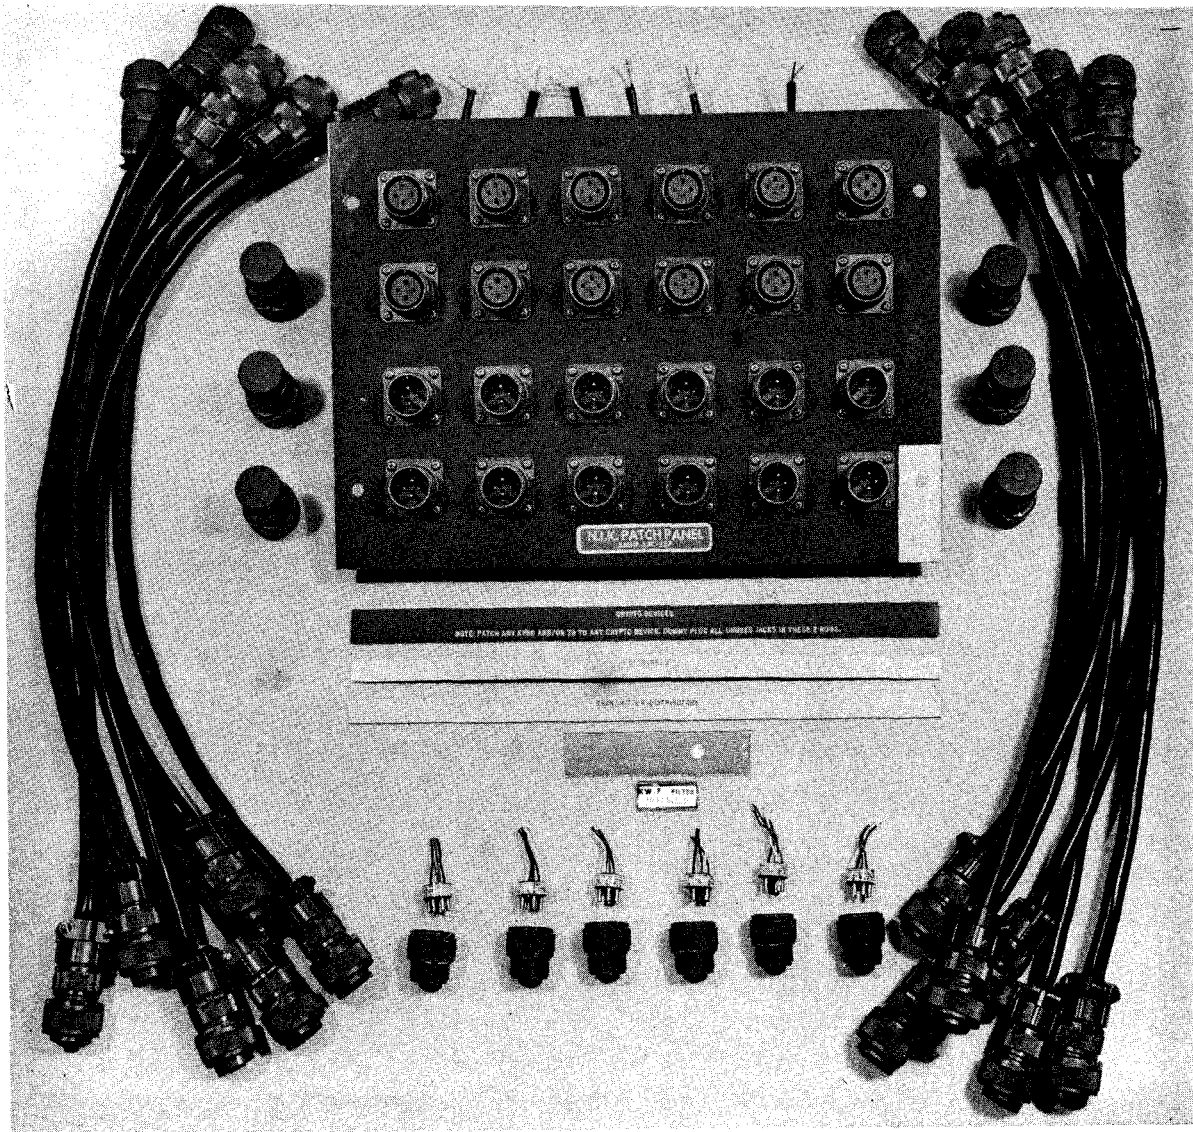

Figure 1.1 SB-3176/UGQ Patch Panel Kit
3. The SB-3176/UGQ Patch Panel kit is shown in Figure 1.1.